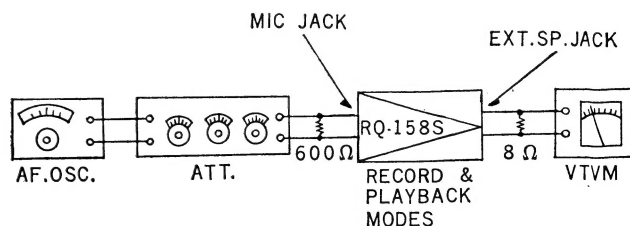

Fig. 7
Measuring Circuit: Refer to Fig. 7
1. As shown in Fig. 7, connect output of AF Oscillator to Microphone Input Jack of model RQ-158S through
1. As shown in Fig. 7, connect output of AF Oscillator to Microphone Input Jack of model RQ-158S through Attenuator (terminate with 600  $\Omega$  if impedance of attenuator is 600  $\Omega$ ).